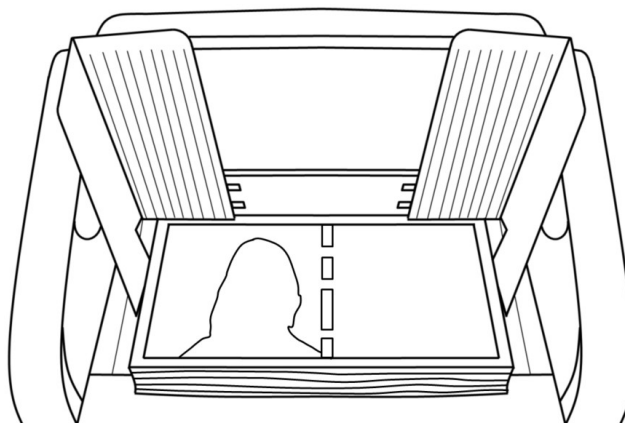

Figure 7
- 3) In the process of counting, it is necessary to adjust the limit positions of the left and right note guiders according to the maximum size of the current banknotes to ensure that the banknotes can be accurately identified by relevant sensors. Taking US dollars as an example, please sort out the banknotes first, and then adjust the limit position of the note guiders according to the largest size banknotes. Finally, put the banknotes into the hopper for counting, as shown in Figure 7: